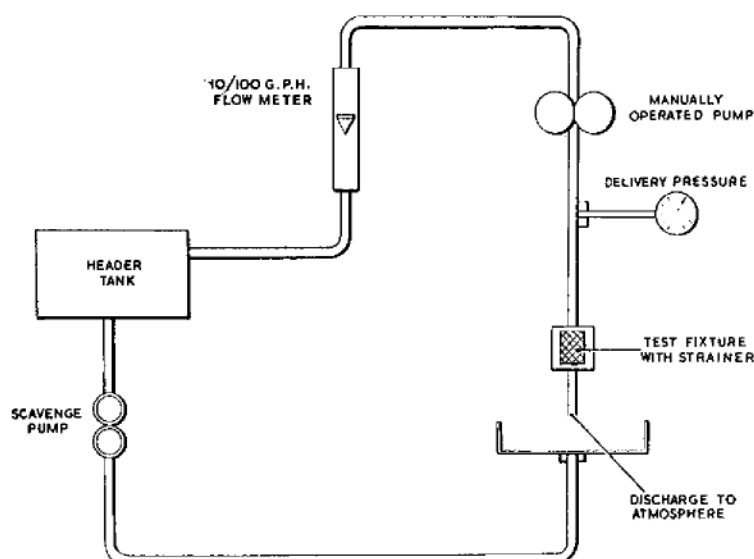

Fig. 11. Diagrammatic layout of pressure drop test rig
73. The following procedure should be adopted with the test rig illustrated in fig. 11.